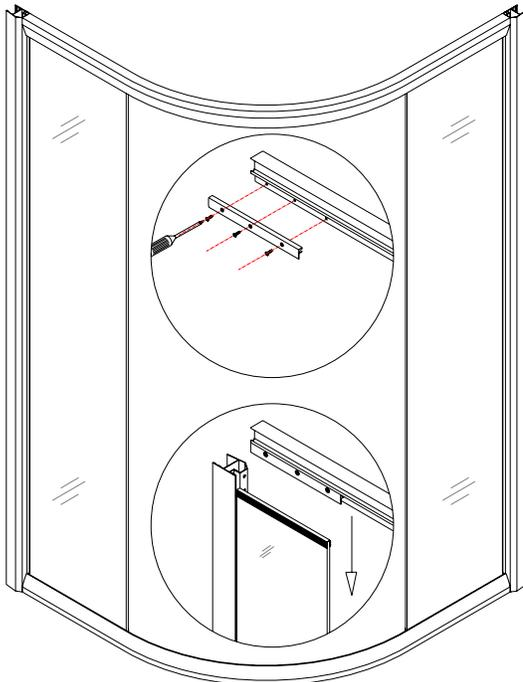

Fig 5
6. Place the top guide rail onto the stationary glass panels and secure it to the vertical profiles with ST4.2×30 round head self tapping screws. Now you may tighten the stationary glass holder; (fig 5)